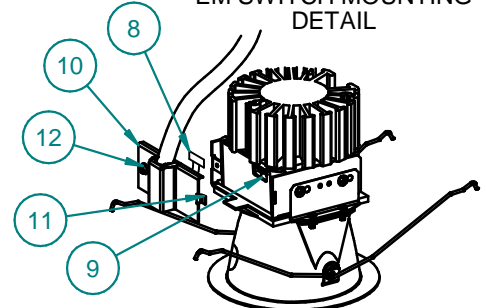

FIGURE 3
7. Insert connector (8) into module (9) and snap electrical cover (10) onto module assembly. (SEE FIG 3)
8. Insert tab (11) into bracket. Align screw (12) with hole and tighten. (SEE FIG. 3)